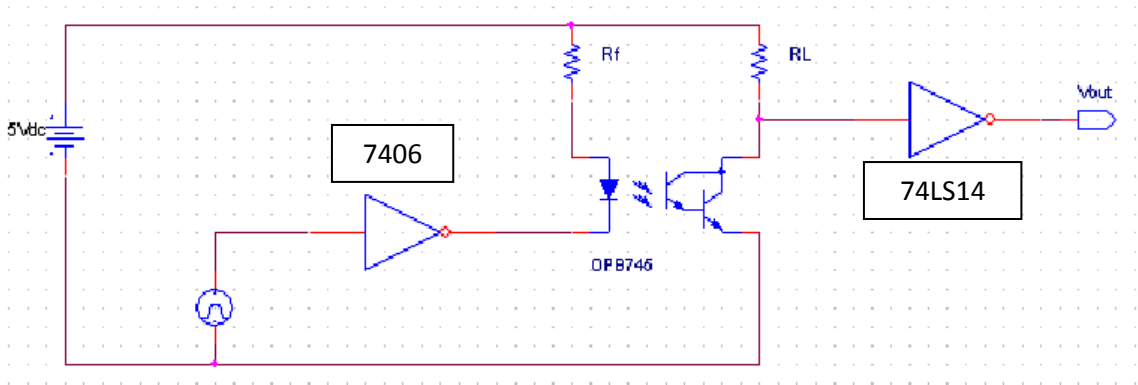

Figure 3: Maximum Throughput Test Circuit
- B. For the second part of this exercise you will be building an experiment that will allow you to determine the maximum frequency at which the OPB745, acting as an opto-isolator, is able to transmit a TTL logic binary signal. Using the test environment you designed and built for part A, modify your circuit to match the circuit shown in Figure 3.